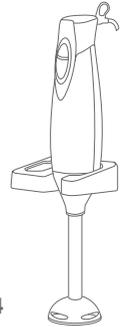

Fig. 4
5. Reassemble the blender shaft to the motor unit then place it upright in wall bracket (see Fig.4) or hang it up for saving space.